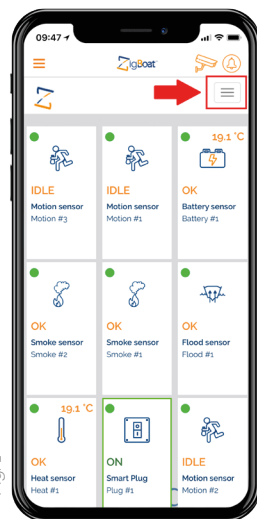
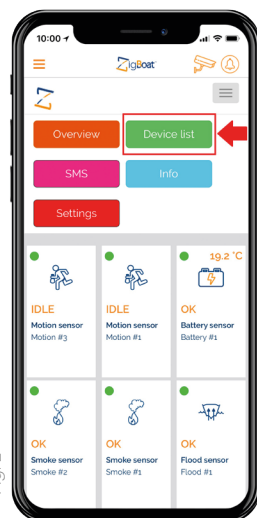

Fig. 1
Fig. 2
- Open the ZigBoat™ App, select the Gateway in the ZB Gateway menu, wait a few seconds, then select the menu button on the top right (fig. 1) Select "Device list" (fig. 2). Add the sensor by entering the serial number which is on the sensor's label (fig. 3).